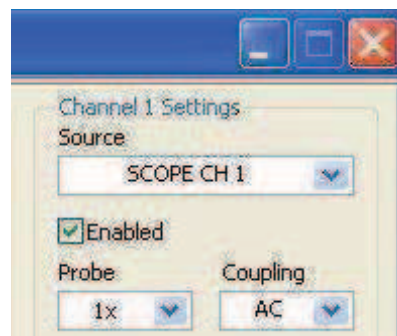

Figure 6
18. Activate the scope's Channel 1 input by checking (that is, putting a tick in) the Channel 1 *Enabled* box as shown in Figure 6 below.